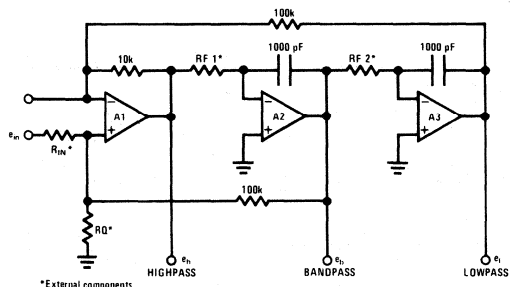

FIGURE 2. Non-inverting Input ( $Q > Q_{MIN}$ ). See Q Tuning Section
The specific transfer functions for some of the most useful circuit configurations using the AF100 are illustrated in *Figures 2 through 8*. Also included are the gain equations for each transfer function in the frequency band of interest, the Q equation, center frequency equation and the Q determining resistor equation.
a) Non-inverting input (Figure 2) transfer equations are: